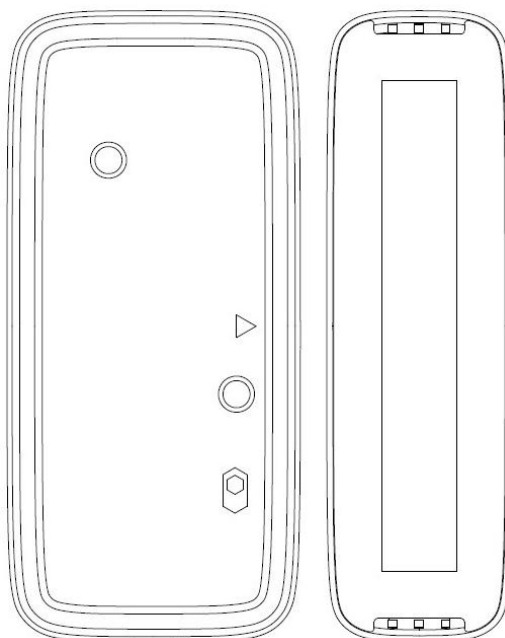

Figure 2- 1
- Be careful with direction of installation, and install magnetic box on the side with arrow on motherboard box. See Figure 2- 1.